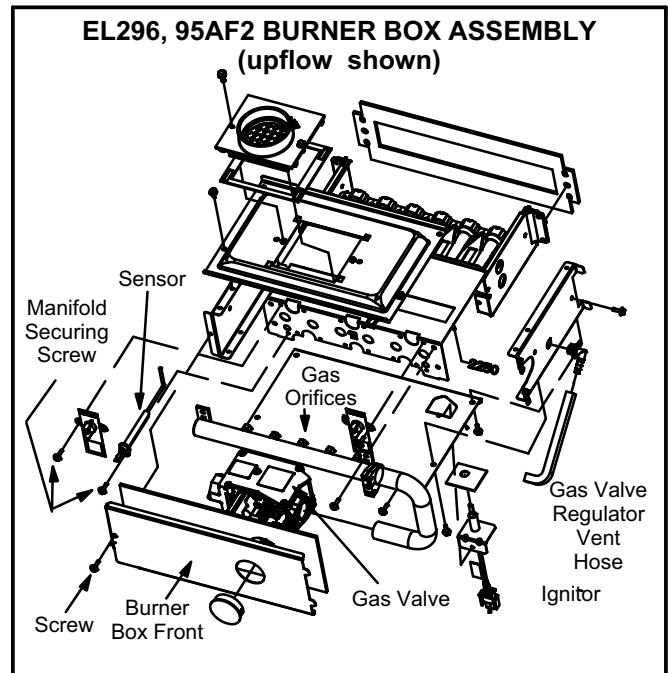

FIGURE 2
- 4 - Remove the screw that secures the burner box front cover and remove front cover (if equipped). See figures 2 and 3.